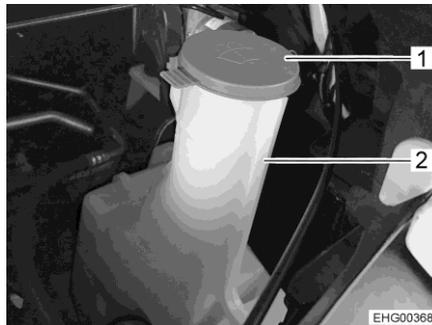

Fig. 39 Washer fluid container filler neck
- Remove the lid (Fig. 39,1) from the filler neck (Fig. 39,2) of the washer fluid container.